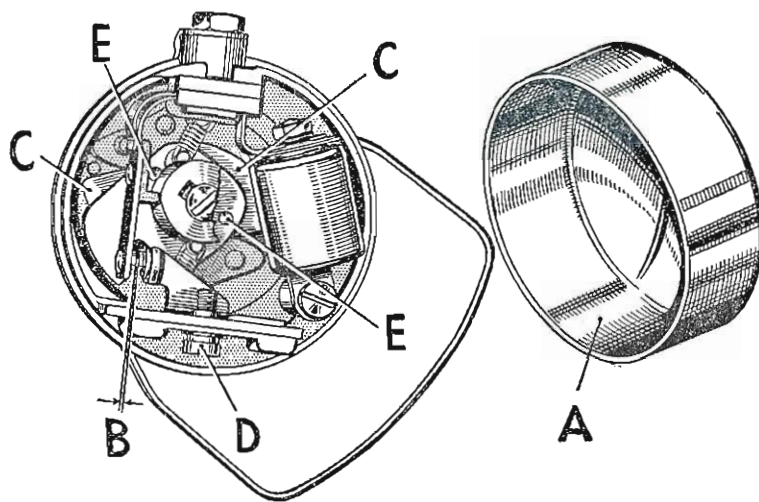

FIG. C30A. Contact breaker and auto-advance mechanism (early type).
Remove the cover (A), Fig. C30A after pressing aside the spring clip or removing the centre screw.